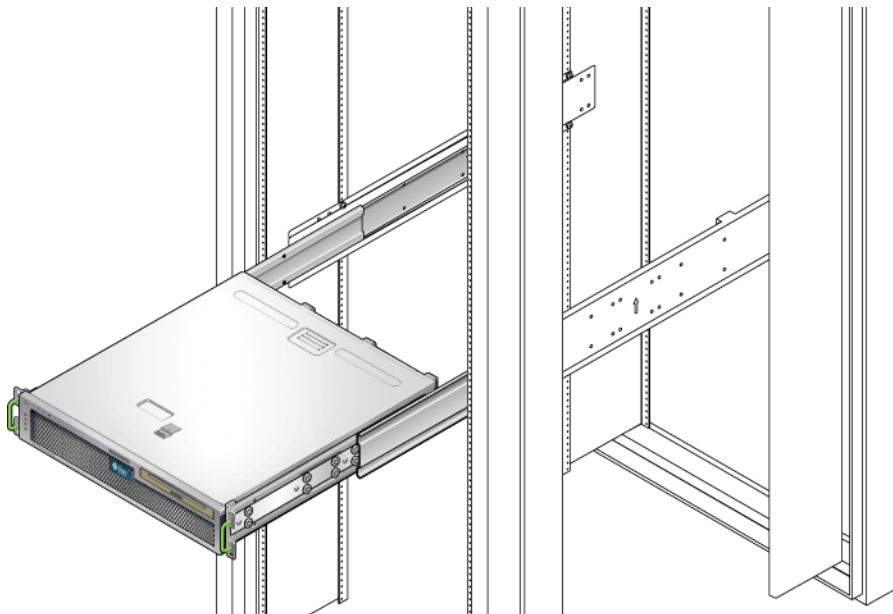

FIGURE 3-12 Sliding the Server Into the Rack
14. Push in the slide buttons and slide the server all the way into the rack enclosure (FIGURE 3-12).